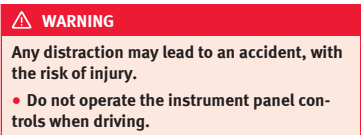

Fig. 37 Windscreen wiper lever: control buttons.
The driver information system is controlled with the multifunction steering wheel buttons **» Fig. 38** or with the windscreen wiper lever **» Fig. 37** (if the vehicle is not equipped with multifunction steering wheel).
- If a message or vehicle pictogram appears, press button **» Fig. 37 ①** on the windscreen wiper lever or button **OK** on the multifunction steering wheel **» Fig. 38**.
- *If managed from the windscreen wiper lever:* to display the main screen **» page 27** or to return to the main menu from another menu hold down the rocker button **» Fig. 37 ②**.
- Press the rocker switch » Fig. 37 ② on the windscreen wiper lever up or down or turn the thumbwheel of the multifunction steering wheel » Fig. 38 until the desired option appears marked on the menu.
- To consult the submenu option, press button » Fig. 37 ① on the windscreen wiper lever or button  on the multifunction steering wheel » Fig. 38.
- Mark or confirm the selection with button » Fig. 37 ① on the windscreen wiper lever or button  on the multifunction steering wheel » Fig. 38.
- *In vehicles without multifunction steering wheel:* Press the rocker switch  on the windscreen wiper lever » Fig. 37.